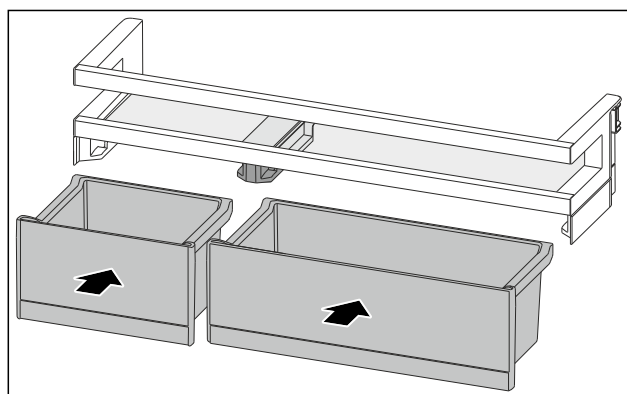

Fig. 129
- ▶ Insert the VarioBoxes in reverse order. (see Fig. 129)